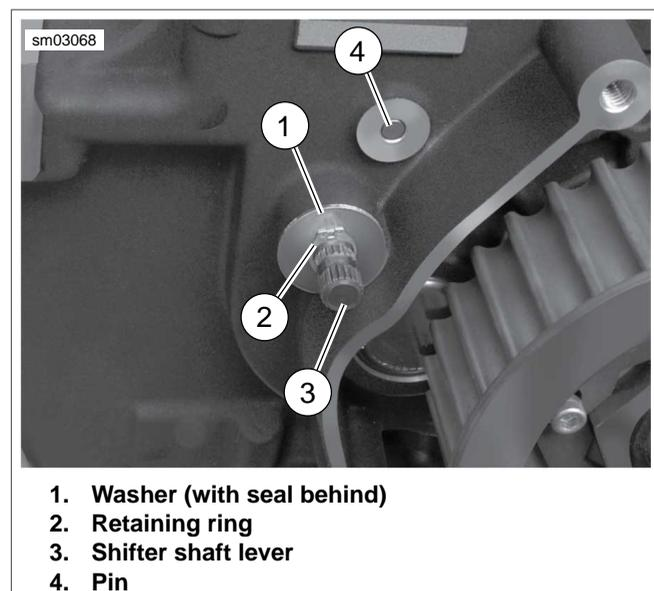

Figure 7-58. Shifter Shaft Lever, Exterior View
4. See Figure 7-58. Insert the assembly into the transmission case.
6. See Figure 7-58. Install a **new** seal. Install washer (1) and a **new** retaining ring (2).